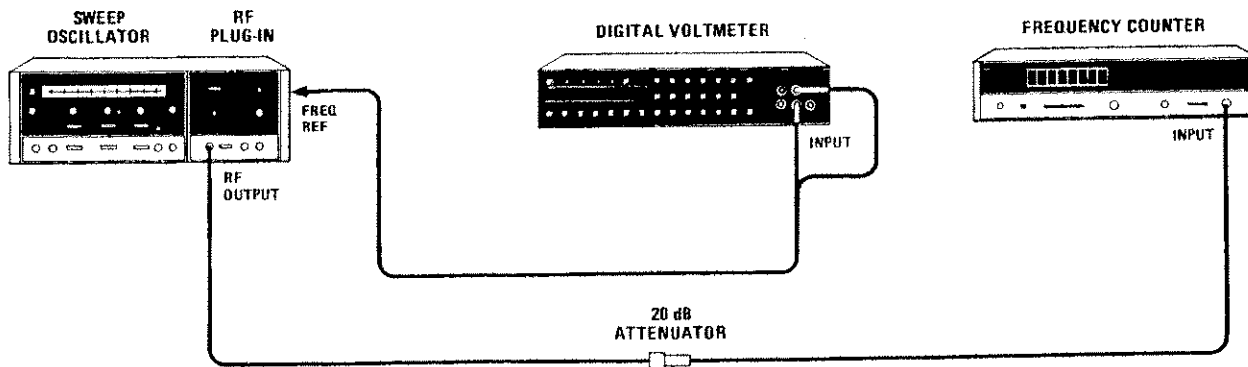

Figure 5-3. Frequency Reference Adjustments Test Setup
1. Connect equipment as shown in Figure 5-3.